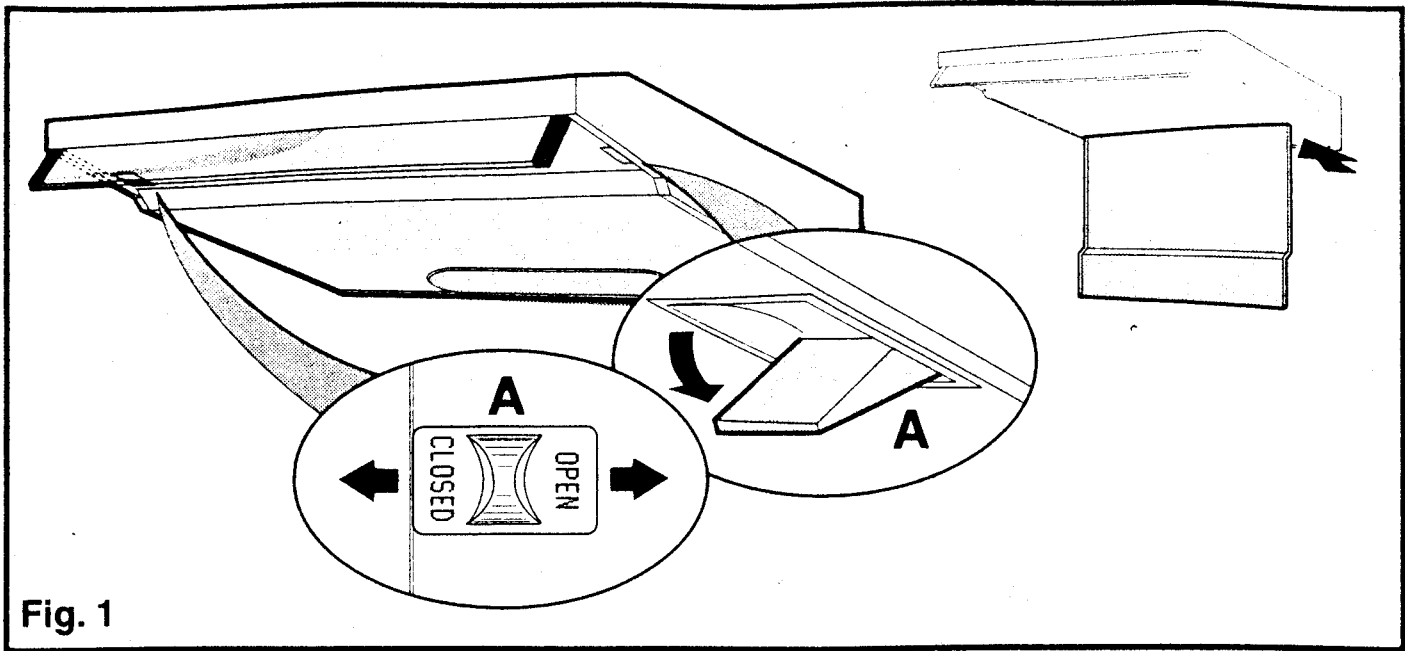

Fig. 1
- Open the suction grid (Fig.1).
- Open the latch **L** and rotate the grid downwards (fig. 1).